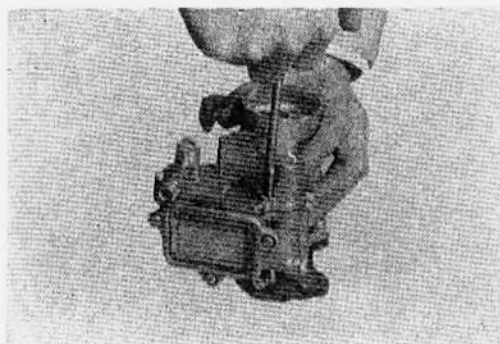

Figure 111
(1) Unloosen 6 screws attaching air horn and separate air horn from carburetor (Figs. 111—112).